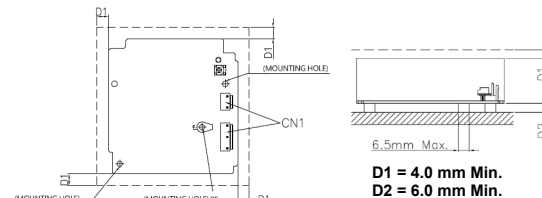

Fig. 3. Assembly Reference
- The mounting holes on the mounting accessories for the device should be kept at a diameter of  $< 6.5\text{mm}$ . This is to ensure sufficient safety distance between the mounting screw and the components on the device (Refer to Fig. 3).